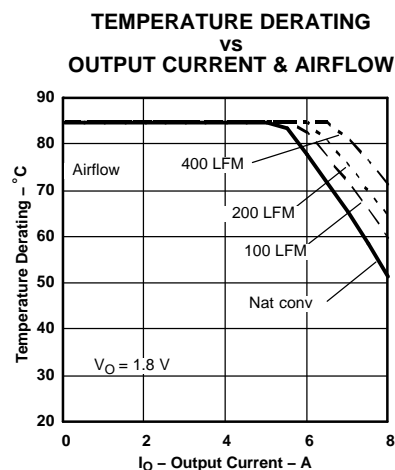

Figure 10.
- (11) The temperature derating curves represent the conditions at which internal components are at or below the manufacturer's maximum operating temperatures. Derating limits apply to modules soldered directly to a 100 mm x 100 mm double-sided PCB with 2 oz. copper. Applies to Figure 10.